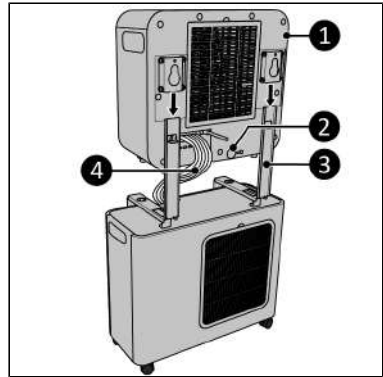

Figure 37.
4. Slide the indoor unit (Figure 37, pos. 1) over the brackets (Figure 37, pos. 3).
5. Guide the refrigerant hose (Figure 37, pos. 4) between the indoor and outdoor unit. Avoid bending the refrigerant hose in smaller bends than 30 mm.
6. Remove the water stop plug (Figure 37, pos. 2).